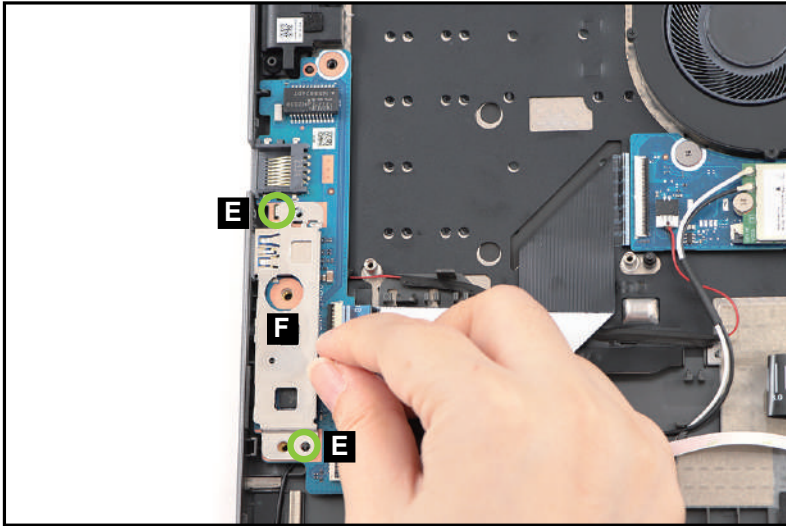

Figure 3-132. Replacing the USB Board
4. By aligning with the guide pins (E), install the left IO bracket (F) onto its slot on the USB board as shown in Figure 3-132.